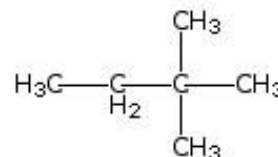

Figure 4c.
- If there is more than one of the same branch on a chain (Figure 4c), designate the positions of the substituent and name the branch with the additional prefix indicating how many times it occurs in the molecule: **di-**(2), **tri-**(3), **tetra-**(4).